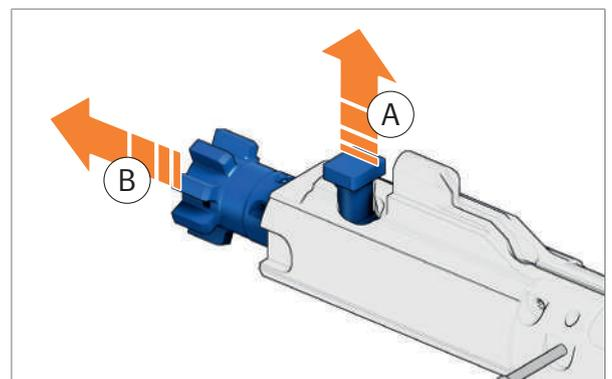

Fig. 101: Remove bolt head
7. Remove control bolt from bolt head (Fig. 101).
8. Pull bolt head out of bolt head carrier (Fig. 101).